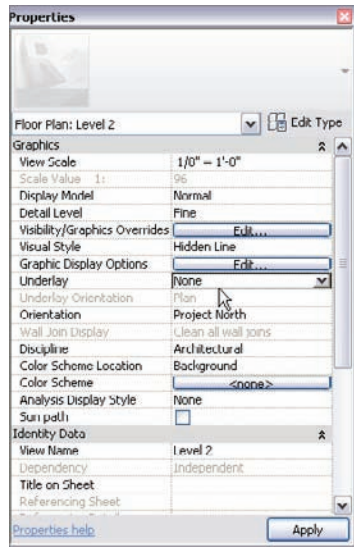

FIGURE 4.53 Switch Underlay from Level 1 to None.
5. In the Properties dialog box, set Underlay to None, as shown in Figure 4.53.